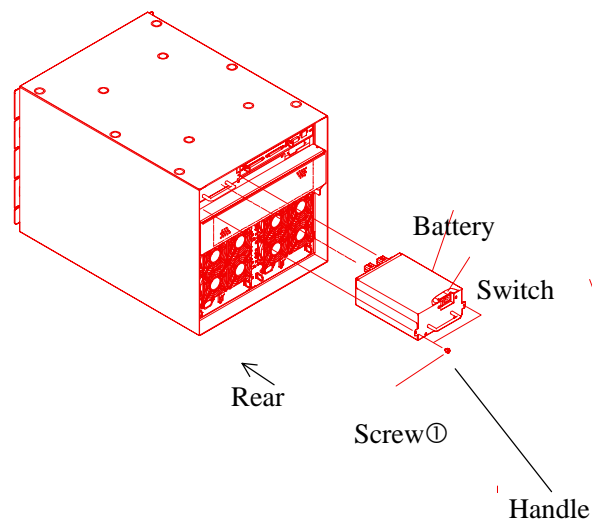

Figure 4.3
(C) DF300-RKWH(See Figure 4.3)